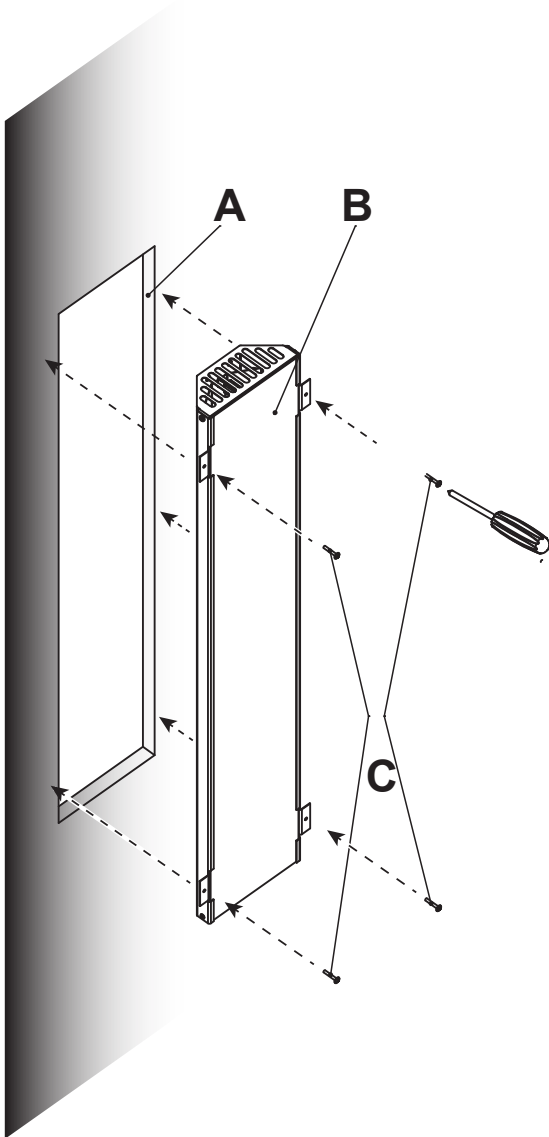

Fig. 1 – installation of radiator
- Install the infrared radiator, Fig. 1, in accordance with its installation instructions.